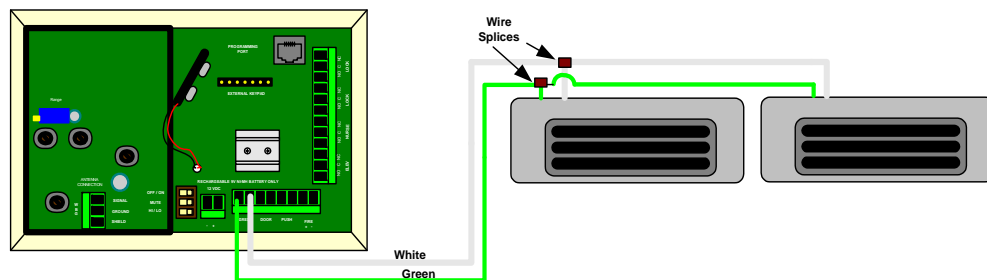

Figure 8-15 Advantage 1000DE to Double Delayed Egress Switch Connections.
**Connecting multiple Delayed Egress switches to the Advantage 1000DE Exit Panel:** Refer to the manufacturer's instructions provided with the lock for proper mounting of the lock. Refer to Figure 8-15 for connections to the Advantage 1000DE Exit Panel. Use SCP Part #440 (20AWG, four-conductor) cable for connections. The green and white conductors are used for connection of the delayed egress switch. When using the Dortronic lock, an adjustment may need to be made to the thumb wheel on the lock armature for proper delayed egress operation.